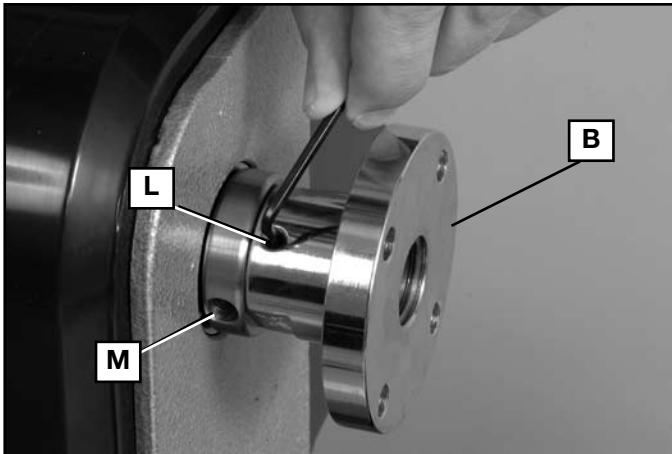
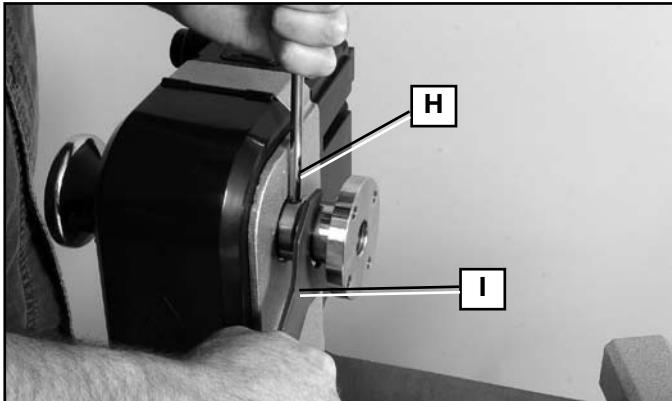
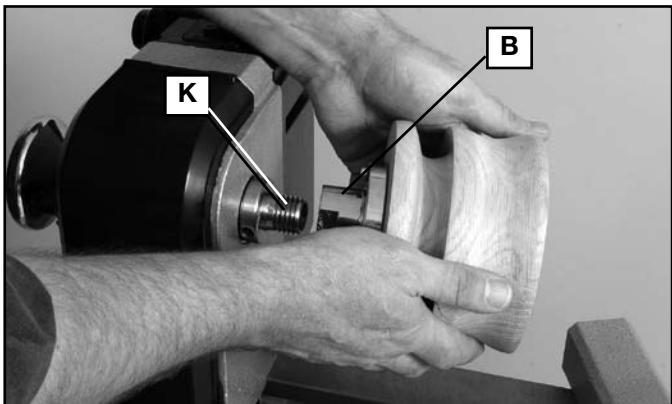

Fig. 2
Fig. 3
Fig. 4
- When using the included 3" (76 mm) faceplate (B) Fig. 2, do not mount pieces larger than 6" (152 mm) in diameter and up to 6" (152 mm) in length. For mounting larger pieces, be sure to use an appropriately sized faceplate.
**WARNING:** To reduce the risk of injury, when using the included 3" (76 mm) faceplate (B) Fig. 2, do not mount pieces larger than 6" (152 mm) in diameter and up to 6" (152 mm) in length. For mounting larger pieces, be sure to use an appropriately sized faceplate.
To remove the faceplate, use the included 3 mm hex wrench to unlock the set screws (L) at least two full turns. Place knockout bar (H) Fig. 3 in hole (M) Fig. 2 and place faceplate wrench (I) Fig. 3 on faceplate shoulder flats (as shown in Fig. 3) and turn wrench to loosen faceplate. Once loose, the faceplate (B) Fig. 2 can be unscrewed.
**WARNING: FOR THE DELTA MODEL 46-460 MIDI-LATHE ONLY:** To reduce the risk of injury, if turning in reverse, be sure to tighten the set screws (L) Fig. 2 securely when replacing the faceplate.
To re-attach faceplate (B) Fig. 4, screw it back on to the spindle nose (K) and tighten securely using the knockout bar and wrench as shown in figure 3. Replace set screws (L) Fig. 2 if removed. Tighten set screws securely.